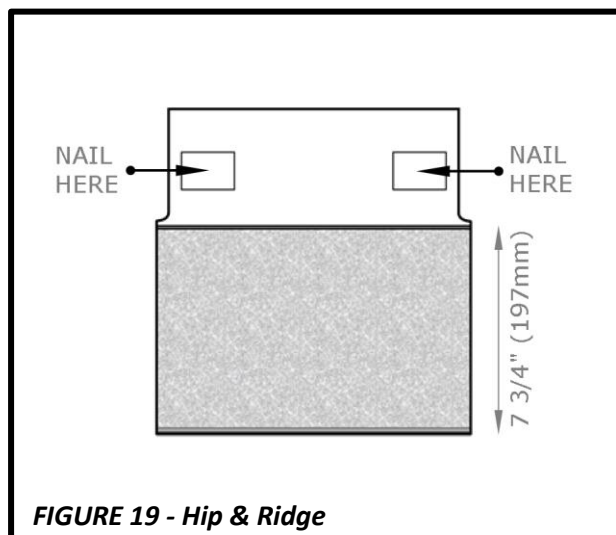

FIGURE 19 - Hip & Ridge
- Attach using two fasteners, a minimum of **1 3/4" (44mm)** in length. Nails must penetrate a minimum **3/4" (19mm)** into the roof deck or **1/8" (3.2mm)** through the roof deck. Install nails **1" (25mm)** from the edge of the shingle in the nailing zone indicated on each shingle. See **Figure 19**.